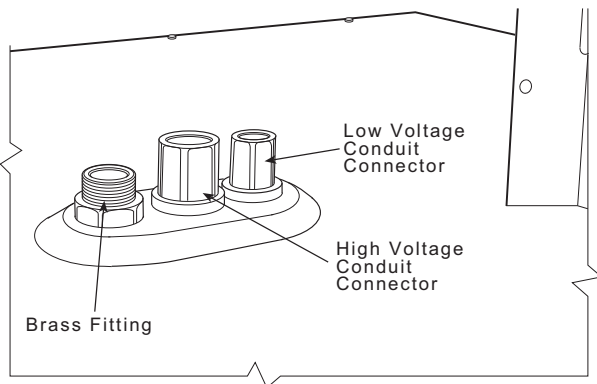

Fig. 1 — Fittings for 3 to 6 Ton and 7-1/2 to 12-1/2 Ton Units
Each unit is equipped with a raised (embossed) surface in the basepan. This area is located in the compressor compartment of the unit, adjacent to the compressor. (See Fig. 1.) The embossment of the basepan contains three (3) dimples for locating cutouts. Holes can be field cut in the embossed surface so that high voltage power, control wires and gas connection can be routed through the roof curb basepan.
NOTE: The gas fitting also contains two neoprene washers and two locking washers. One neoprene and one locking washer are installed below the unit basepan with the second set being installed on the top side of the basepan before the fitting is tightened. Tighten all fittings. The male threads protrude above the basepan of the unit, while the female threads protrude below the basepan. (See Fig. 1.)